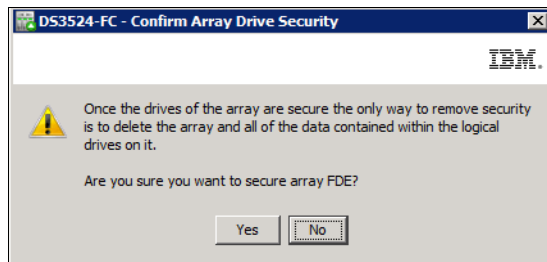

Figure 15-16 Confirm Array Drive Security
2. You will then be prompted to confirm the Secure Drives on the array, as shown in Figure 15-16.